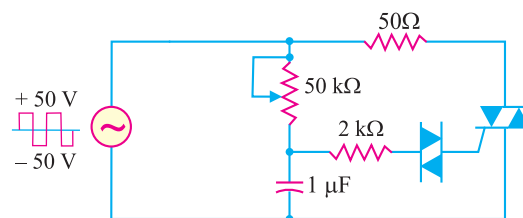

Fig. 21.35
7. If the triac of Fig. 21.35 has  $1\text{ V}$  across it when it is conducting, what is the maximum current through the  $50\Omega$  ?